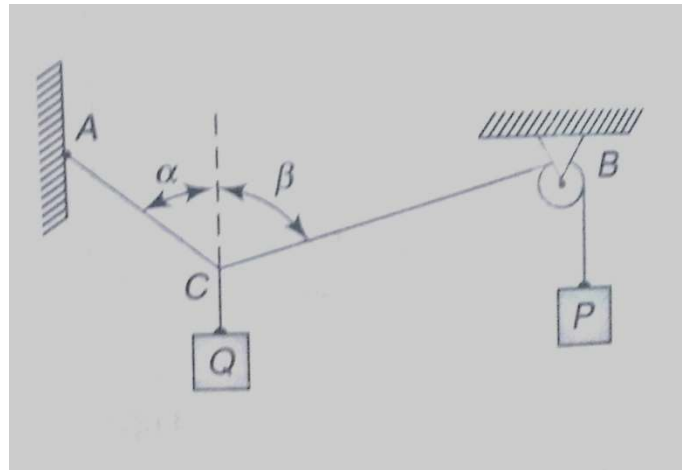

Figure 1.13
19. A weight Q is suspended from a small ring C , supported by two cords AC and BC (Figure 1.13). The cord AC is fastened at A while the cord BC passes over a frictionless pulley at B and carries the weight P as shown. If $P = Q$ and $\alpha = 50^\circ$, find the value of the angle β .